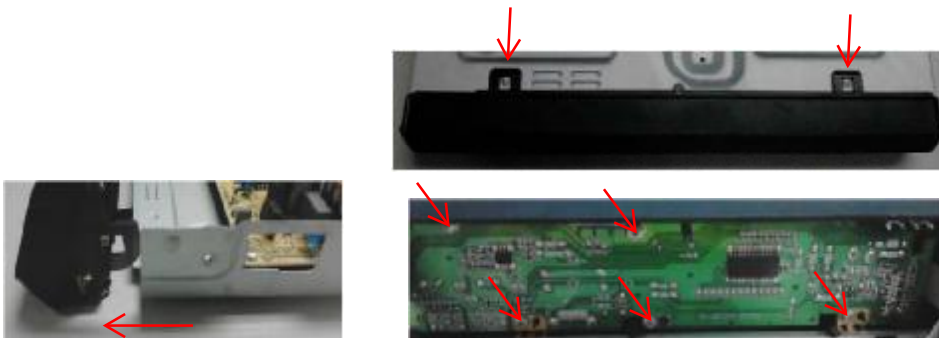

Figure 4
Step5: Dismantle the front panel and the front control board. Loosen the 2 buckles on both sides and 2 buckles under bottom cover, then remove 5 screws on the front control board(Figure 4)